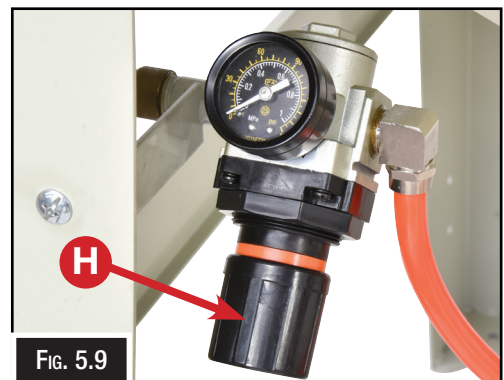

FIG. 5.9
6. Turn the regulator knob to adjust the air pressure to the desired setting. This is a trial and error process, but a good place to start is a pressure between 90-120PSI. (Fig. 5.9)